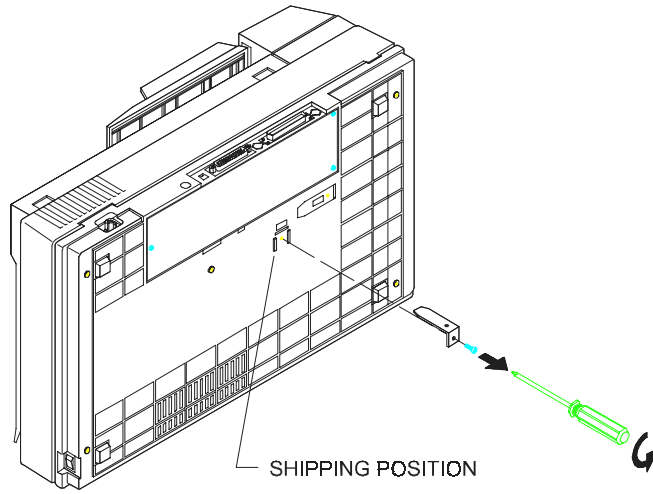

Figure 2-1 Removing the Shipping Bracket
| 2.1.1 Removing the Shipping Bracket (refer to figures 2-1 and 2-2)..... | 2-1 |
2.1.1 Removing the Shipping Bracket (refer to figures 2-1 and 2-2)
Note: For steps (iv) to (vi) please refer to figure 2-1 and 2-2